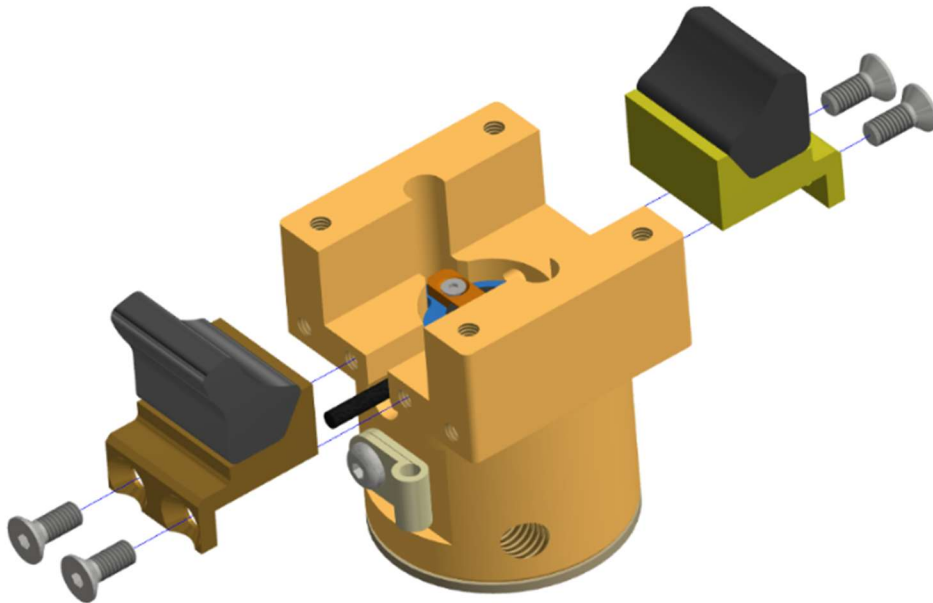

Figure 10-38. Attach the Plantar and Dorsi Stop Assemblies (474-5810 and 474-5807)
- 10.3.3 Attach the Plantar and Dorsi Stop Assemblies (474-5810 and 474-5807) to the Upper Ankle Adaptor (474-5820-1,2) using two M4 X 0.7 X 10 LG. FHCS per side (Figure 10-38).